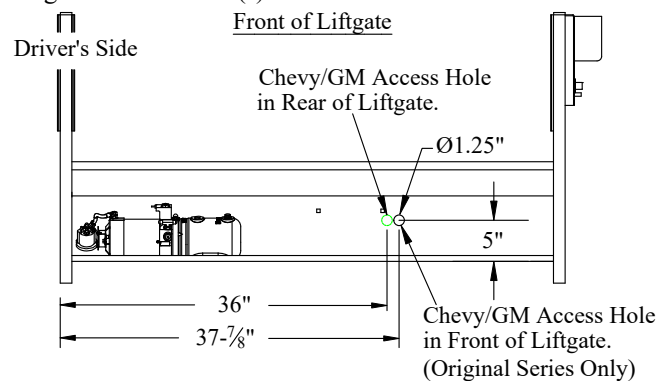

Figure 13: Spare tire access location for Chevy & GMC trucks.
2. **Remove and Discard** the black plastic plug(s) from the mainframe at the dimensions shown (Figure 13).